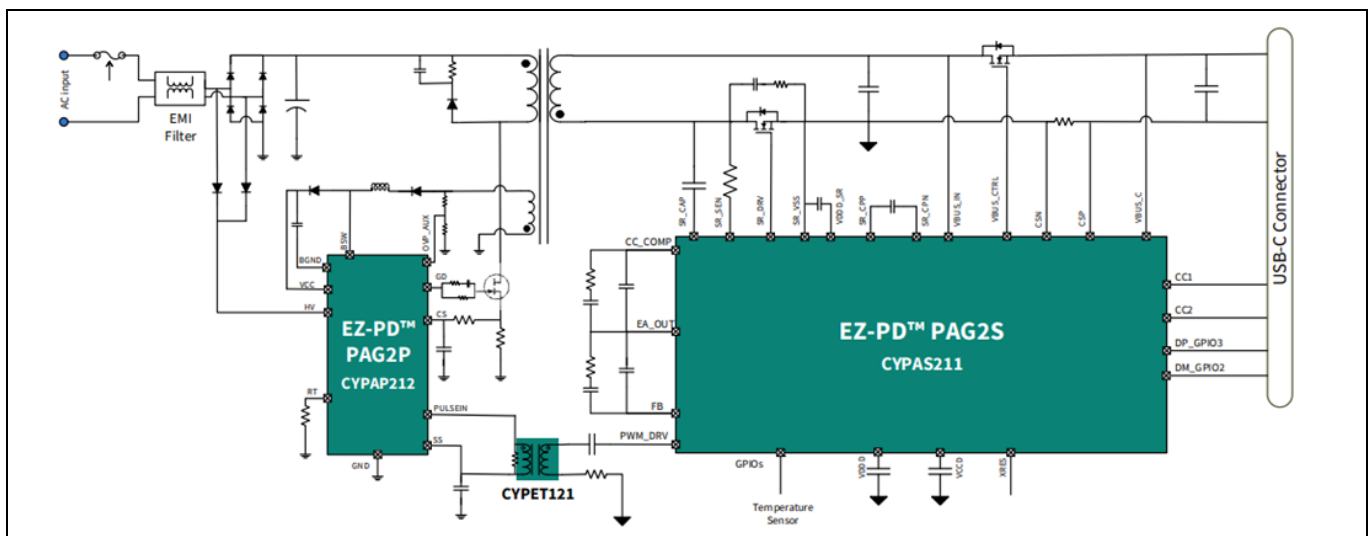

Figure 1 Application diagram for a power adapter in a secondary side controlled flyback converter topology along with ZVS operation
Figure 1 shows the application diagram for a power adapter implementing a secondary-side controlled synchronous flyback converter topology. PAG2S modulates the pulse width of the primary MOSFET in voltage control mode. PAG2S engages the internal error amplifiers (EA) and a programmable ramp generator to determine the pulse width of PWM. The PWM signal is transferred from the secondary to the primary side through a pulse edge transformer.